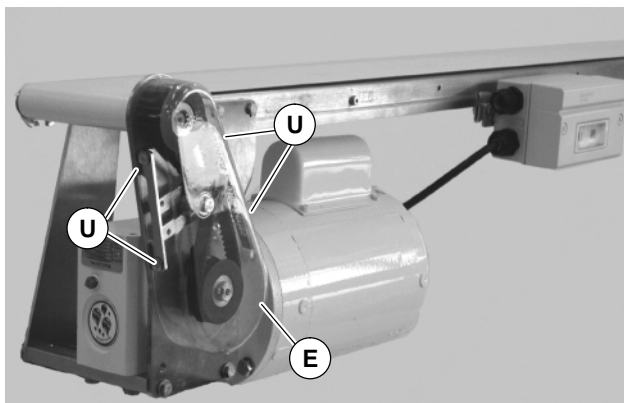

Figure 24
1. Remove four (4) screws (U of Figure 24) and remove cover (E).